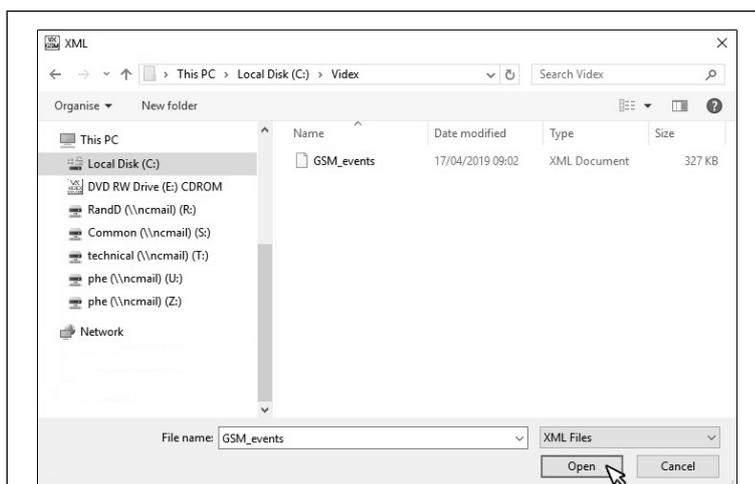

Fig. 107
- The 'XML open' window will appear, as shown in **Fig.107**, locate the file location of the saved event log (these are saved as XML documents);
- Select the file and click the **OPEN** button, as shown in **Fig.107**. To cancel the operation click on the **CANCEL** button;